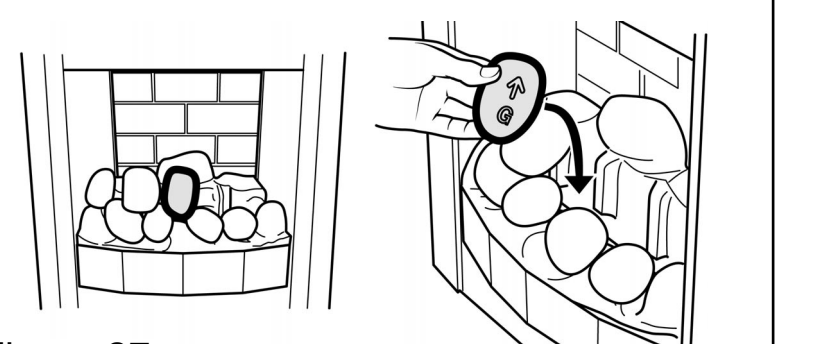

Figure 27.
10. Hold pebble 'G' upright with the arrow pointing to the top. Place pebble 'G' between the front and rear base pebbles. It should rest on top of pebble 'B' & 'C' and rest against the moulded pebble in the rear pebble base. (See figure 27).